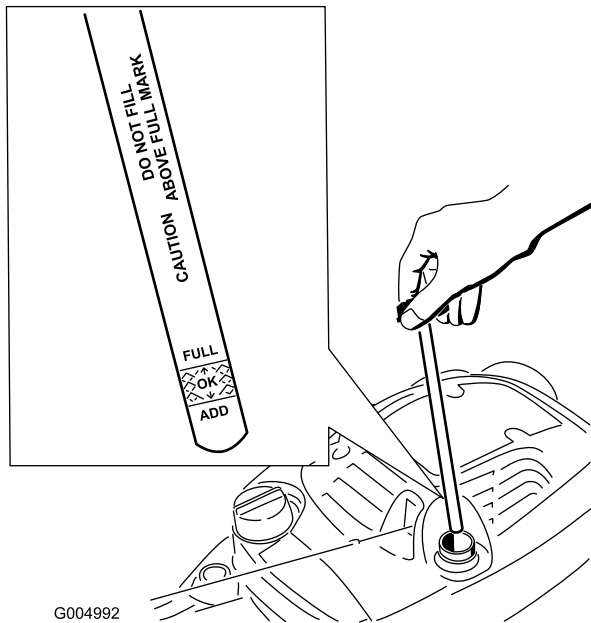

Figure 5
1. Remove the dipstick (Figure 5).
2. **Slowly** pour oil into the oil fill tube until the oil level reaches the **Full** line on the dipstick (Figure 5). **Do not overfill.** (Max. fill: 20 oz., type: SAE 30W detergent oil with an API service classification of SF, SG, SH, SJ, SL, or higher.)